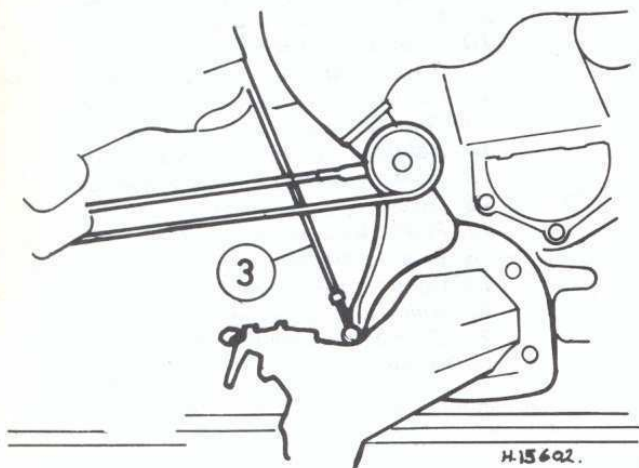

Fig. 3.20 123 engine throttle control rods (Sec 13)
- 1 Adjust the rods to the lengths shown in Figs. 3.20 to 3.24 (photos).